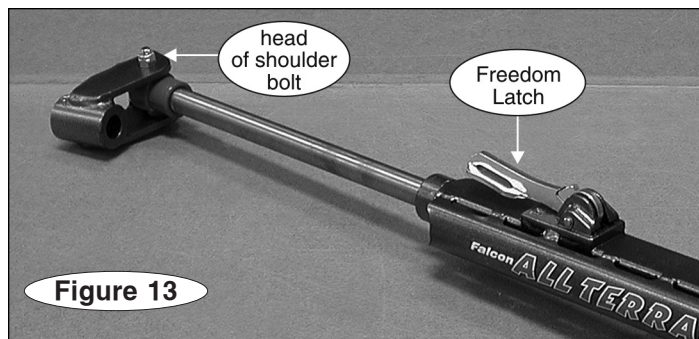

Figure 13
18. Be certain to position the head of the shoulder bolt at the top of the tow bar – on the same side as the Freedom Latch™ (Figure 13).